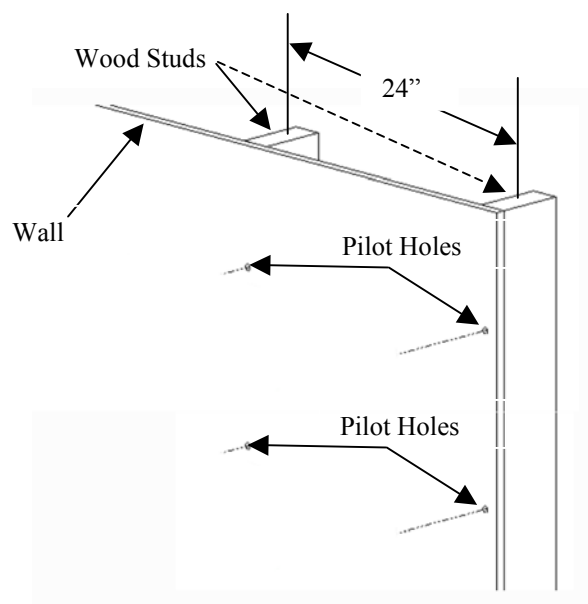

Figure 4. Wood Studs 24" Apart on Center
- Refer to Figure 4 for wood studs that are 24" apart on center.